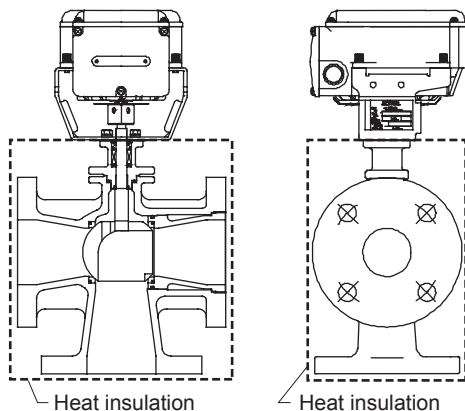

Figure 13. Heat insulation
- Apply heat insulation in the area illustrated by in Fig. 13.